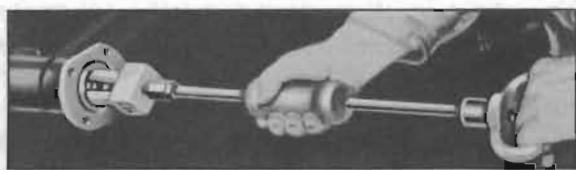

Figure 5-6—Removing Wheel Bearing and Oil Seal
4. Remove outer oil seal and roller bearing, then remove inner oil seal, using Remover J 1436. See figure 5-6.